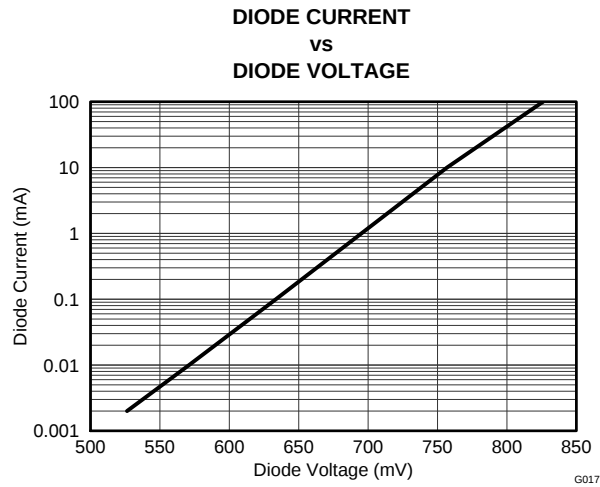

Figure 17.
- Changed Figure 17, Output Current vs. Output Voltage. 12